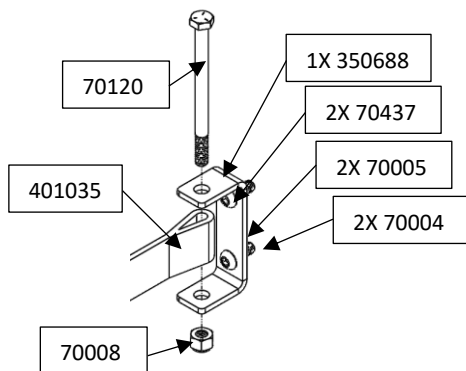

Figure 16: Complete Door Stop Install
27. Thread the other side of the door stop strap into door jam bracket (installed in step 23) using 1/4"-20 x 3" bolt and 1/4"-20 nylock nut (Figure 16).